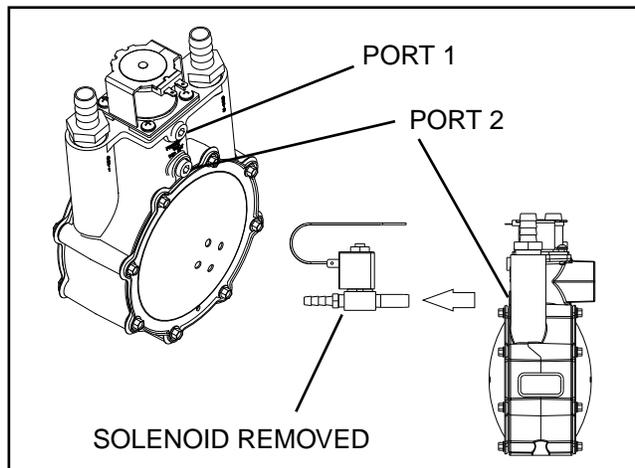

Figure 19 (10 kW) Gas Pressure Test point
1. Remove the hose from fuel solenoid (FS2) and install a manometer to Port 2 on the fuel regulator. See Figure 19.